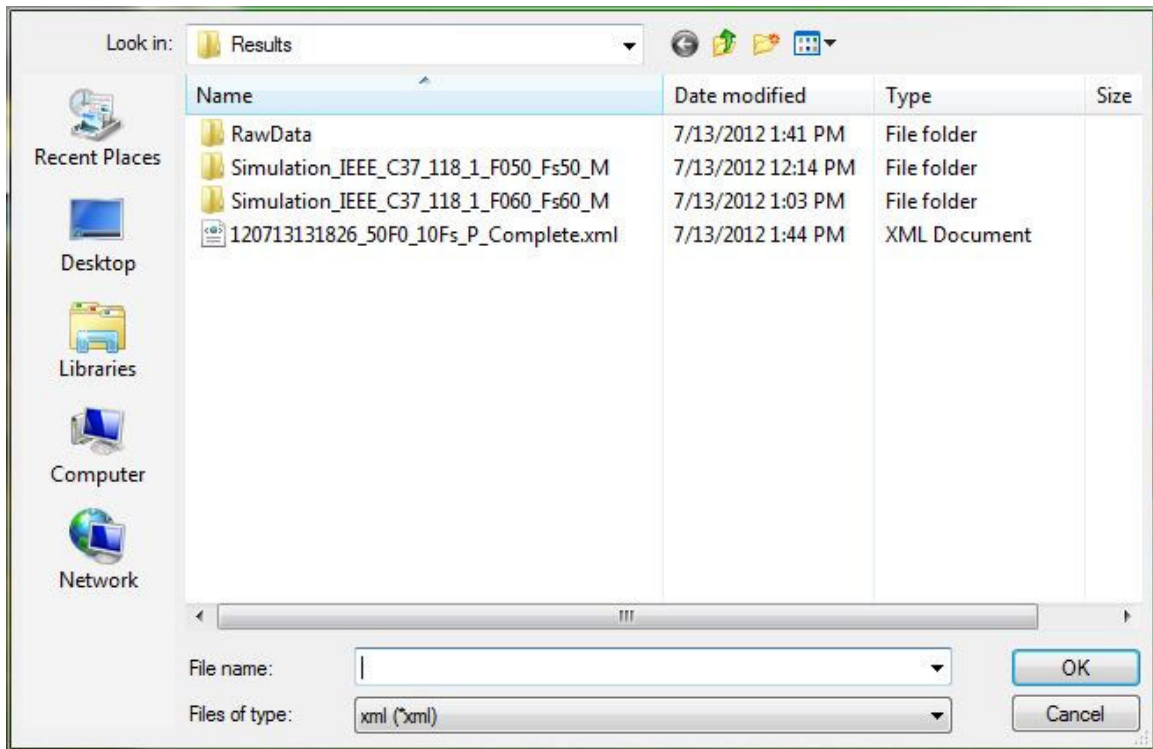

Figure 5-4. Load Results File Dialog Box
*The results files are marked with time stamps to identify when the results file was made (refer to “Result Files Naming Convention” in Chapter 3). In addition to the result file time stamp, Date Modified column in the load dialog box can be used to find a recently modified results file (see Figure 5-4).*